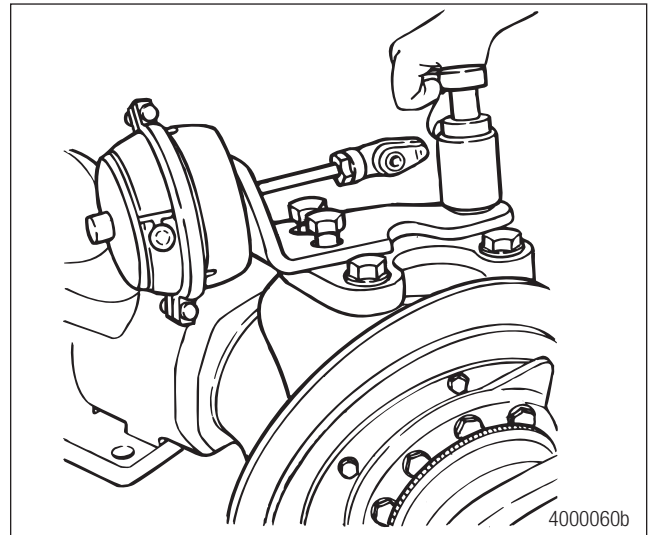

Figure 7.28
1. Install the air brake chamber and bracket. Tighten the bracket mounting capscrews to specification. Refer to Section 12 Specifications on page 77. Figure 7.28.